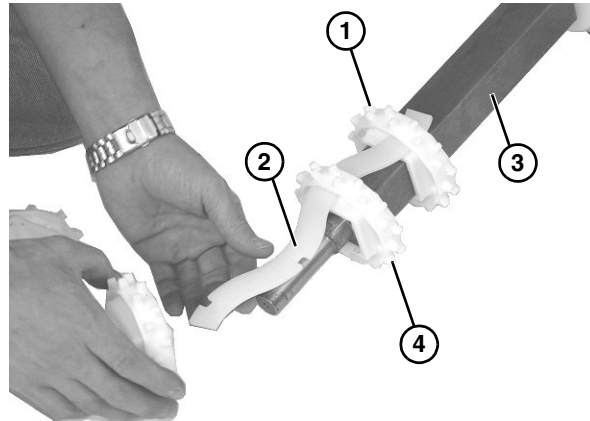

Figure 37
- To assemble sprockets onto drive spindle, slide one sprocket (**Figure 37, item 1**) onto alignment bar (**Figure 37, item 2**) and slide assembly onto drive spindle (**Figure 37, item 3**).
- Install second sprocket (**Figure 37, item 4**) and subsequent sprockets one by one, while sliding entire assembly onto alignment bar and spindle.